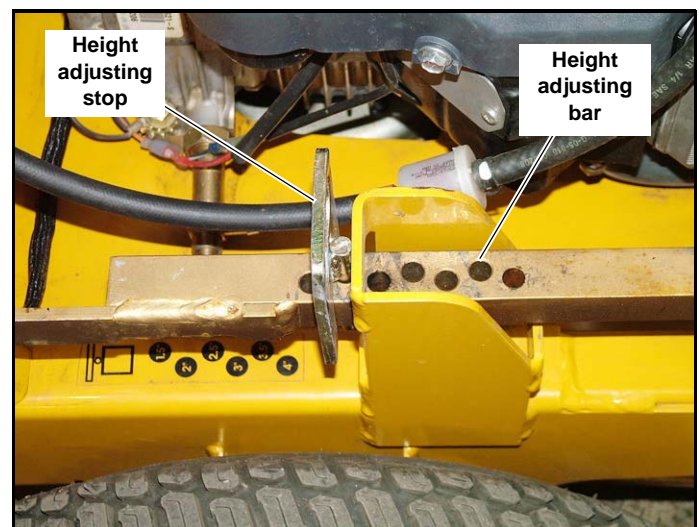

Fig. 3-11
1.27 cm intervals. By turning the height adjusting stop around, .64 cm increments can be attained due to the .64 cm plate that is part of the stop. Fig. 3-11